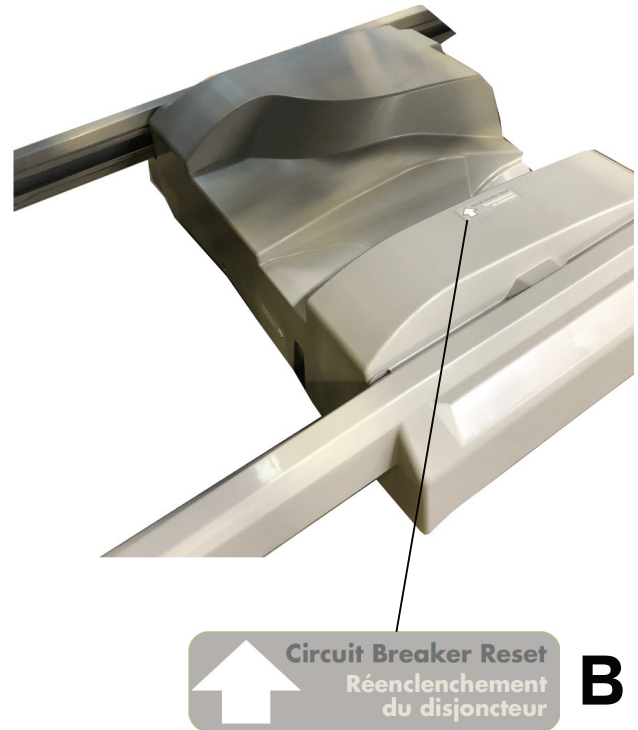

Figure 7 – Zoom Circuit Breaker Reset
1. Push the Circuit Breaker Reset button on the **Zoom** base (Figure 7) (**Zoom** option only).
**Note** - The **Brake** icon (H) located on the footboard control panel (*Footboard control panel - Home* (page 45)) illuminates when you apply the brakes.
- Trip the Circuit Breaker Reset (B) when you place the product into storage (**Zoom** option only) (Figure 7).